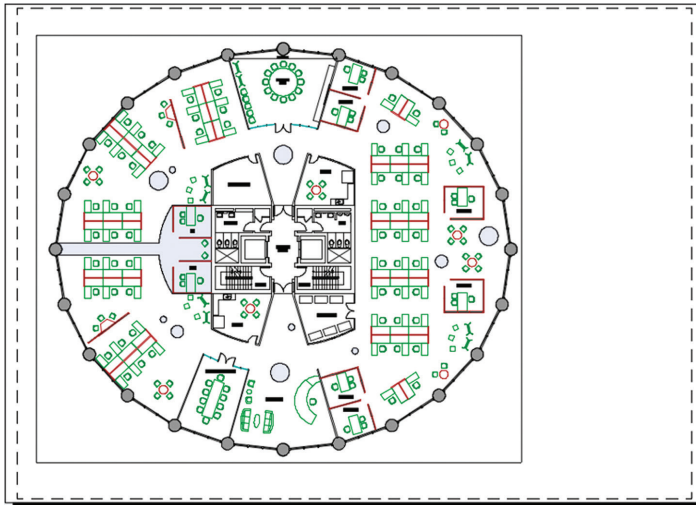

FIGURE 13.19 The drawing fits the paper at 3/16" scale (or 1:60 in metric).
8. Double-click the paper outside the viewport to switch back into paper space. Select the viewport and grip-edit it so that it closely surrounds the plan geometry. Move the plan to the left on the paper to make room for another drawing on this layout. Figure 13.19 shows the result.